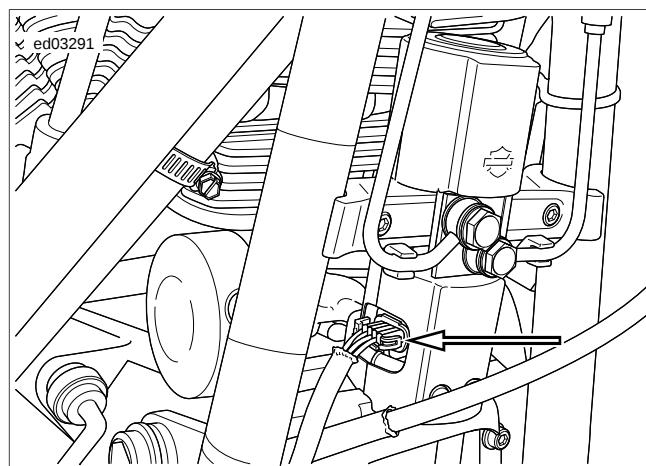

Figure 7-2. Front HCU [254]
- See Figure 7-2. The front HCU which contains a pump, accumulator, solenoids, apply and release valves.